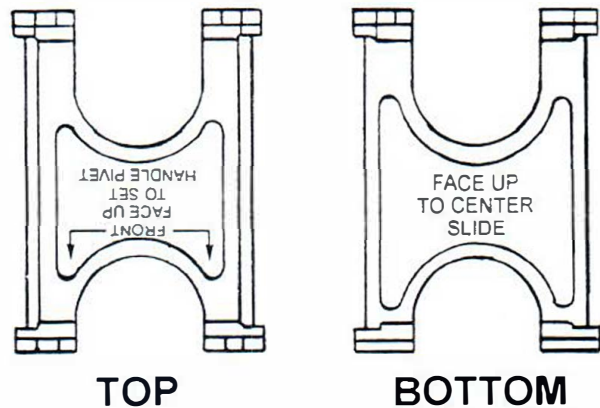

Figure 34. TT-150 Tool
- E. Using other side of the TT-150 tool, install tool to position handle pivot spring assembly with **“FACE UP TO SET HANDLE PIVOT”** facing up. *See Figures 34 and 35.*